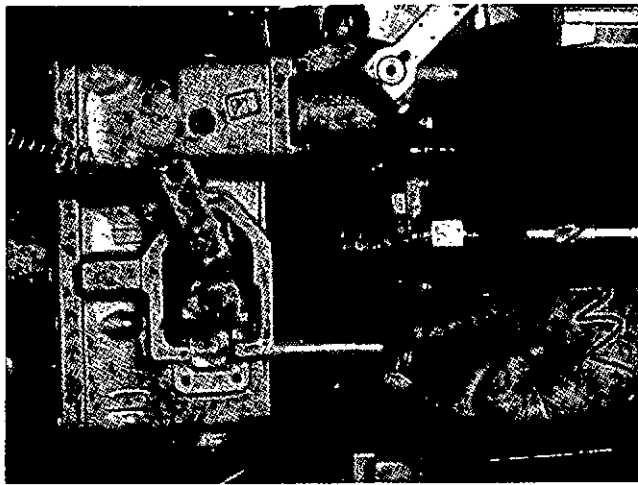

Fig. 10-29, (F5337). Shim the governor spring for high speed.
9. If the speed is too low, add shims between the governor spring spacer and the retaining ring. Check Table 18-1 for the spring specifications. To reduce the speed, remove the shims. Each 0.001 inch shim thickness will change the speed approximately 2 rpm. Shims are available 0.005, 0.010 and 0.020 inch [0.13, 0.25 and 0.51 mm] thick, Fig. 10-29.